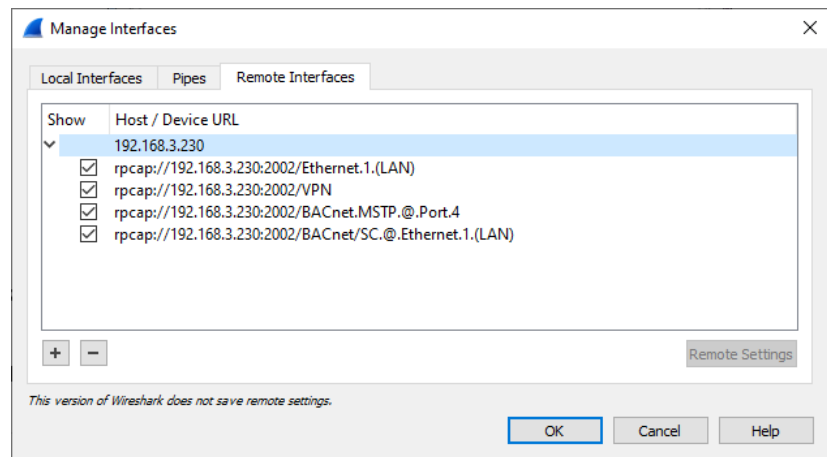

Figure 321: Added new interface to Wireshark.
7. If the connection to the device was established successfully, the **Remote Interfaces** list will be updated with information about all capture ports available on the device as shown in Figure 321. Note, that the BACnet/SC interface provides the unencrypted payload of BACnet/SC frames at the websocket level, whereas the regular Ethernet log provides the raw TLS stream.